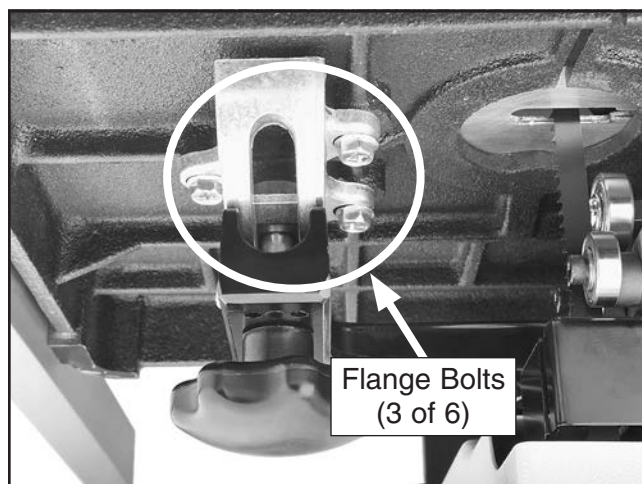

Figure 38. Location of trunnion bracket flange bolts.
6. Loosen the six flange bolts that secure the table to the trunnion brackets (see **Figure 38**).